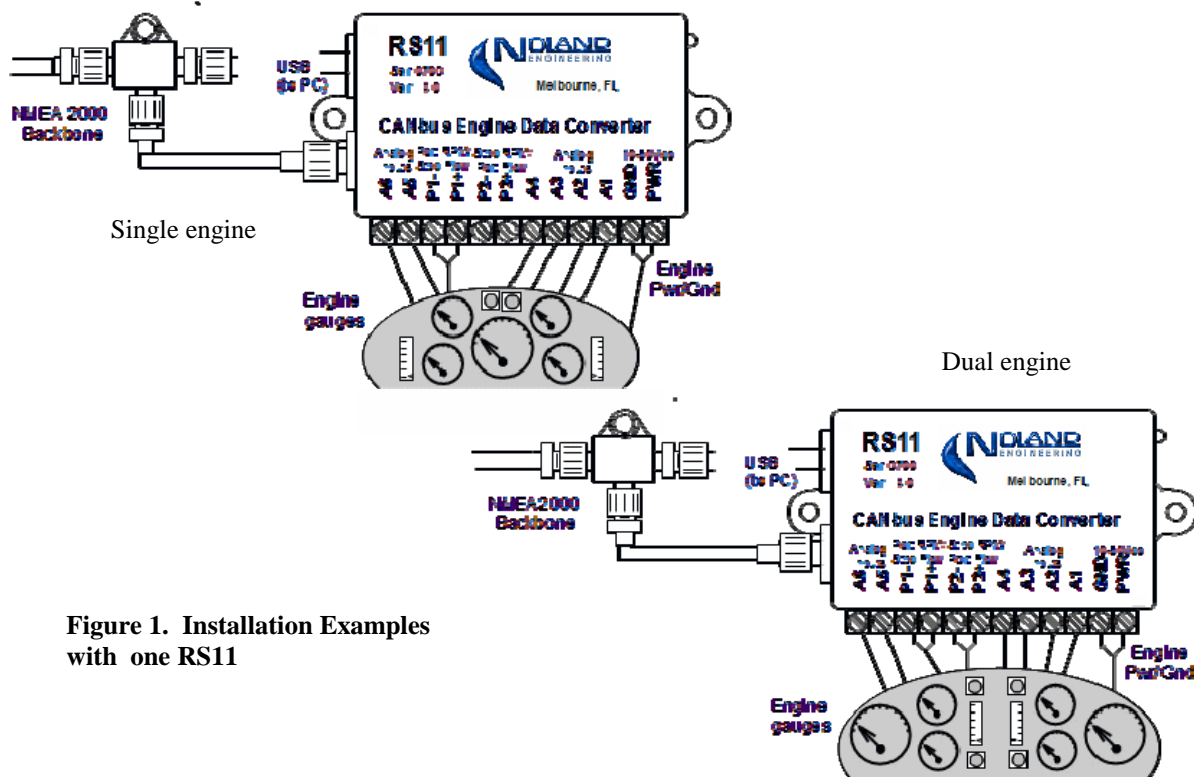

Figure 1. Installation Examples with one RS11
- Figure 1 - Installation Example with one RS11
Installation: Example installations are shown in Figure 1 for a single and a dual engine RS11. For the single engine case, only the 'Port' RPM input is used, and all analog inputs are available for that engine. In the dual engine case with only one RS11, the analog inputs must be divided between the two engines. This usually means each engine only gets three analog inputs.